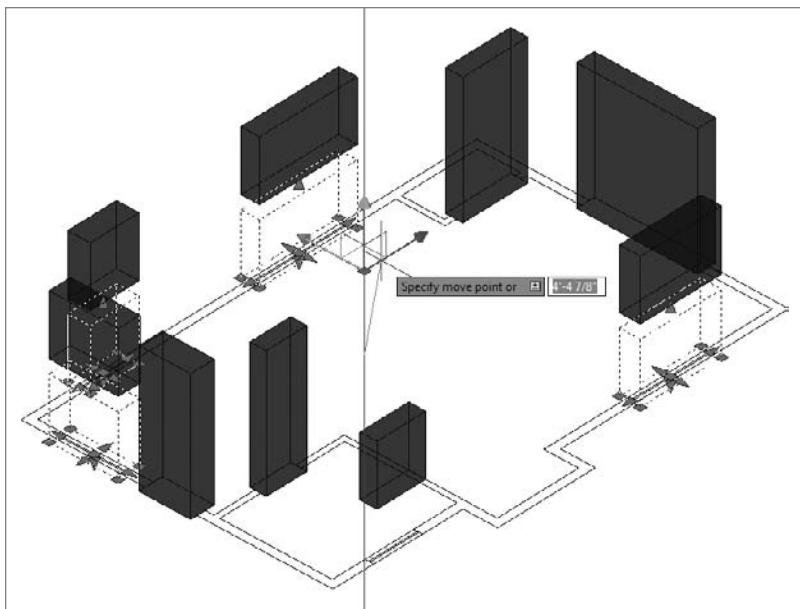

FIGURE 16.23 Move the remaining block-outs 2'-11" (889 mm) in the positive Z direction.
6. Move the cursor directly above the Move grip tool and then click and drag the z-axis. Notice that all four boxes are moving and each leaves a ghosted version of itself at its original location (see Figure 16.23).